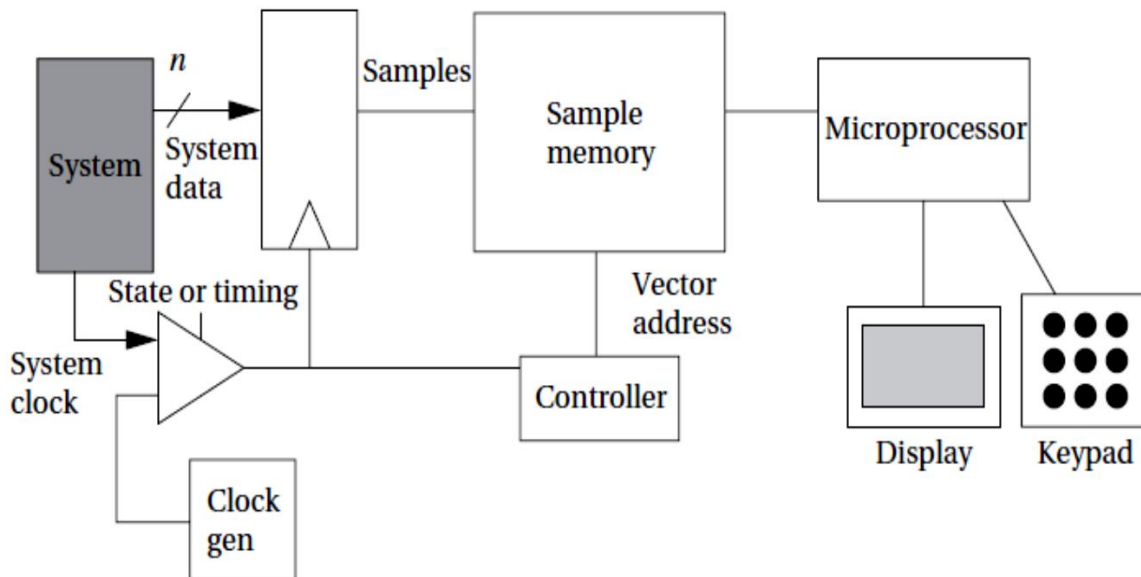

FIGURE 4.24
- ❖ The internal architecture of a logic analyzer is shown in Figure 4.24.